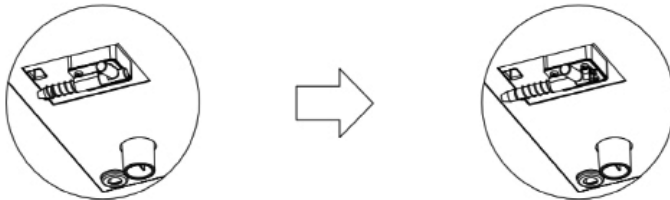

figure 1
8. Use two #1 Bolts and two #8 Nut Caps to attach both Support Bars (I) to Step 7 assembly.
9. Attach the assembled Storage Compartment (G) parts to the wheels/legs assembly. Push Storage Compartment (G) down until it is fit into place.
- Place Main Unit (A) onto the top of the Storage Compartment (B).
- Ensure that the two inserting pins underneath the Main Unit (A) line up correctly so that Main Unit (A) can be locked under the beam of the Storage Compartment (C) (see figure 1).